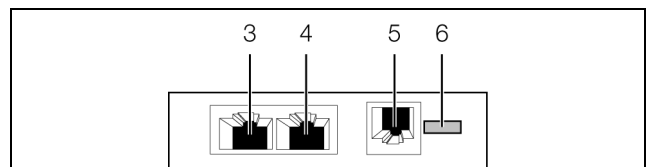

Fig. 7: Rear of the CAN bus access
- Use a CAN bus connection cable to connect the CAN bus access to a CAN bus interface on the CMC III Processing Unit or the neighbouring component on the CAN bus (fig. 7, item 3).
- If necessary, connect another component (e.g. another sensor type) to the second, free CAN bus interface of the CAN bus access (fig. 7, item 4).